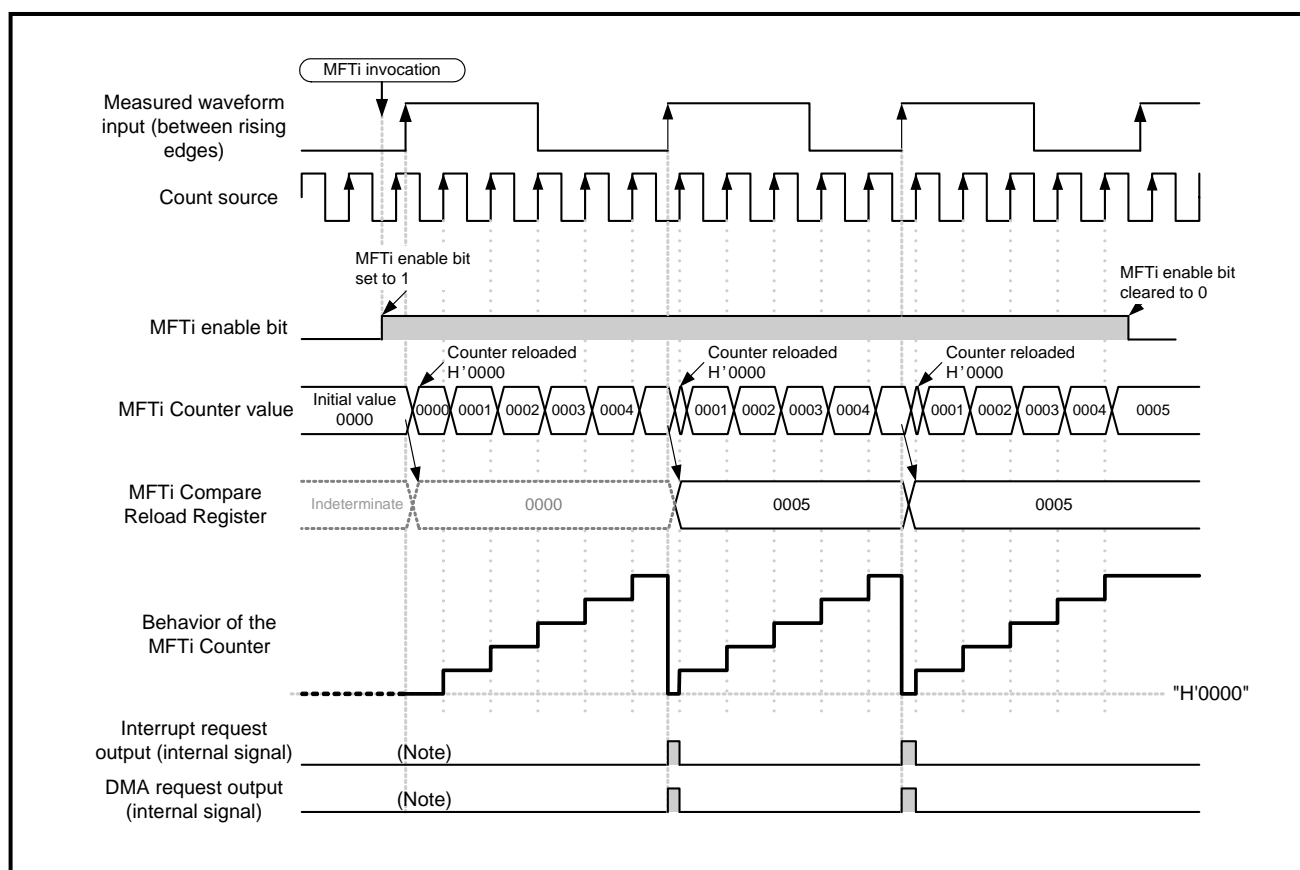
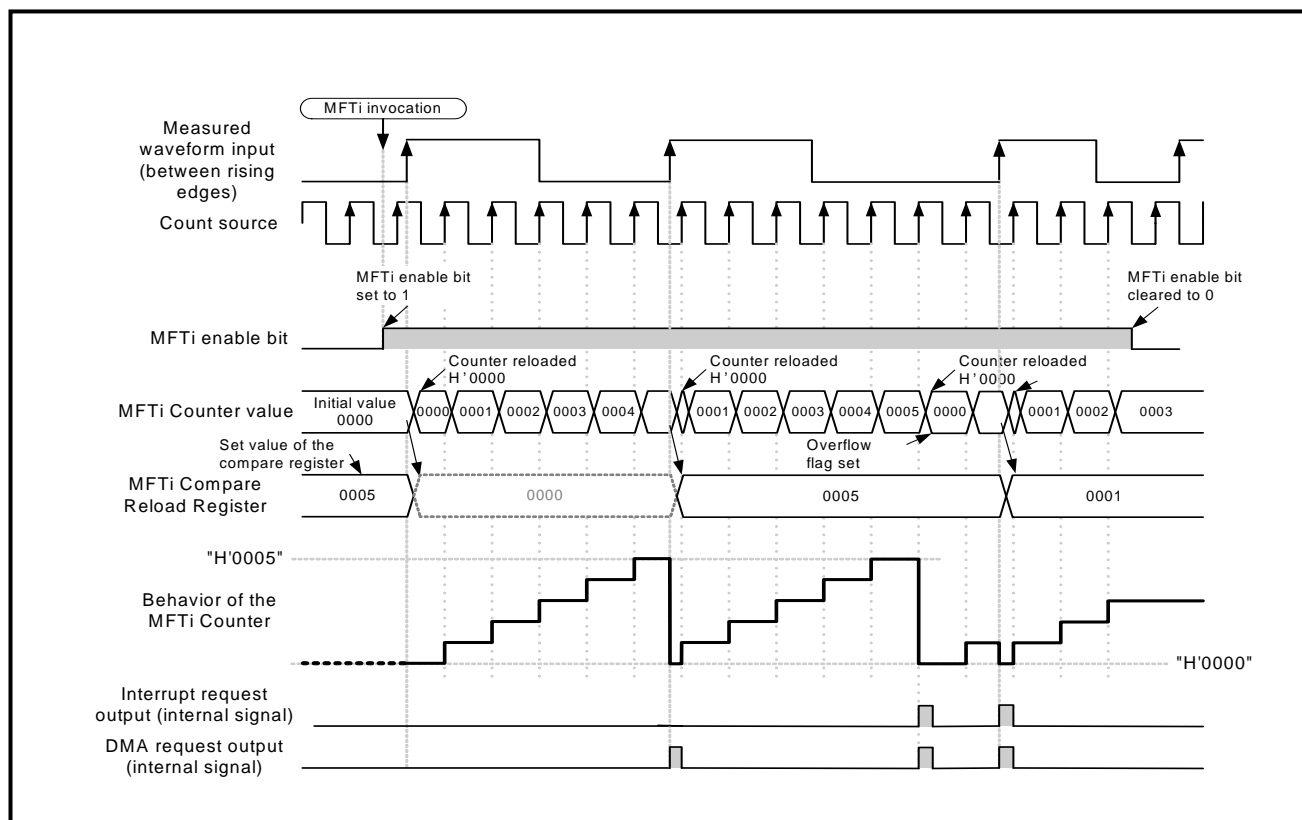

Figure 12.3.22 Example Operation Timing of MFTi when Acting as Period/Pulse Width Measurement Timer 1
Figure 12.3.23 Example Operation Timing of MFTi when Acting as Period/Pulse Width Measurement Timer 2
(3) Operation of MFTi as the period/pulse width measurement timer
Figure 12.3.22 and Figure 12.3.23 show example operation timings of MFTi when acting as the period/pulse width measurement timer that was set in (2).
Shown in Figure 12.3.22 and Figure 12.3.23 are examples for the case when MFTi Counter = H'FFFF (TCCR = 0) is selected for the terminal count and when MFTi Counter \geq MFTi Compare Register (TCCR = 1) is selected for the terminal count, respectively.